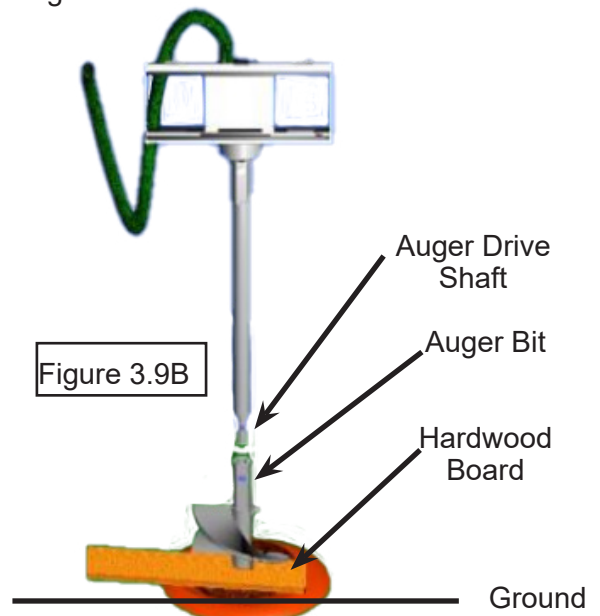

Figure 3.9B
21. If lift height is not sufficient, place the auger bit at the mouth of the hole with some flighting above the hole. *See Figure 3.9B*